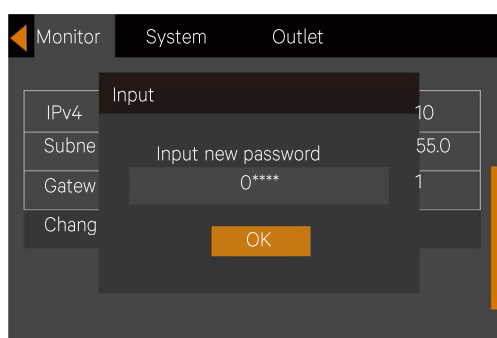

Figure 5-23 Inputting new password
4. Enter the existing password and press the key to confirm, at this point the system requests the user to enter a new password. See Figure 5-23.